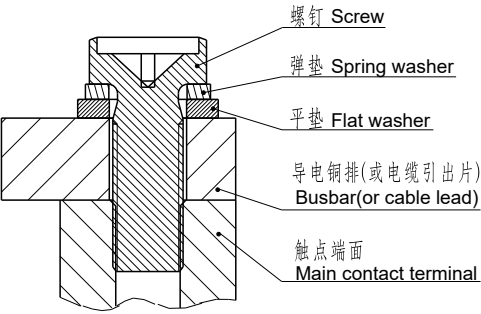

图1(Fig1)
- 当产品使用1个及多个导电铜排连接时, 请确保导电铜排与触点端面紧密贴合（多个铜排需确保大电流的导电铜排最贴近触点端面, 小电流的导电铜排其次）, 然后是平垫圈、弹簧垫圈、螺钉。不正确的连接顺序可能造成严重过热, 参考下图1:
When the product is connected with one or more conductive copper bars, please ensure that the conductive busbars closely fit the contact terminal surface (The conductive copper bars with high current must be closest to the contact terminal surface if there are multiple copper bars and then conductive busbars with low current), followed by flat washers, spring washers and screws. Incorrect connection sequence perhaps give rise to severe overheating. Refer to Figure 1 as follows: